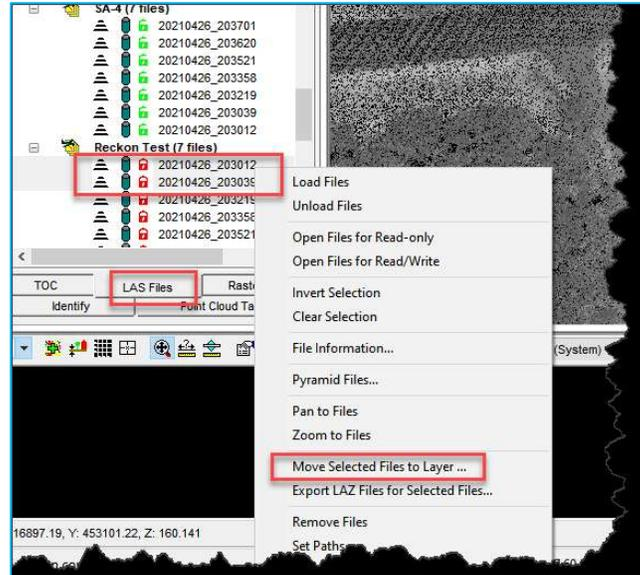
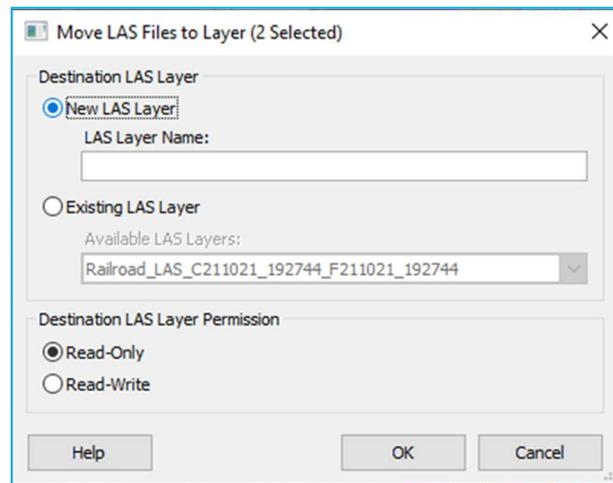

Figure 54 - Invoking the Move Selected File(s) to Layer Command
Figure 55 - Move Selected Files to Layer command dialog
- For more selective processing you might select individual LAS file(s) in the LAS Files tab and use the right-click -> **Move Selected File(s) to Layer** command (Figure 54) to open the Move LAS Files to Layer options dialog (Figure 55). This command allows you to move one or more LAS files from one LAS Layer to another. You can also create a new destination LAS Layer with this command.